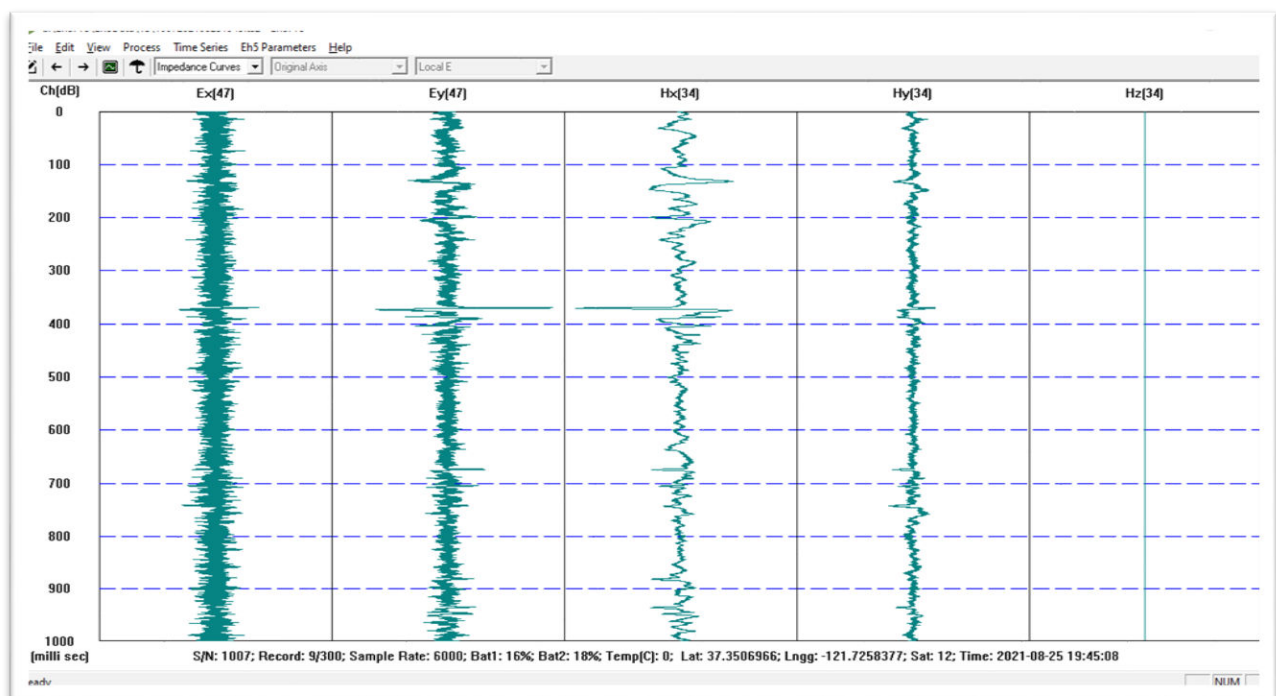

Figure 3-2 – Time series curves from all five channels
D. Click **Open** and time series from the first acquisition segment will be displayed for all five channels as shown in Figure 3-2.